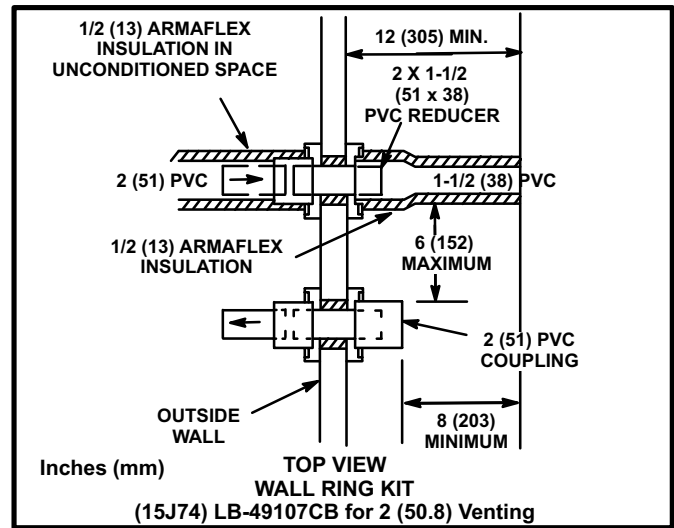

FIGURE 35
- 6 - On field supplied terminations for side wall exits, exhaust piping should extend a minimum of 12" (305mm) beyond the outside wall. Intake piping should be as short as possible. See figure 35.